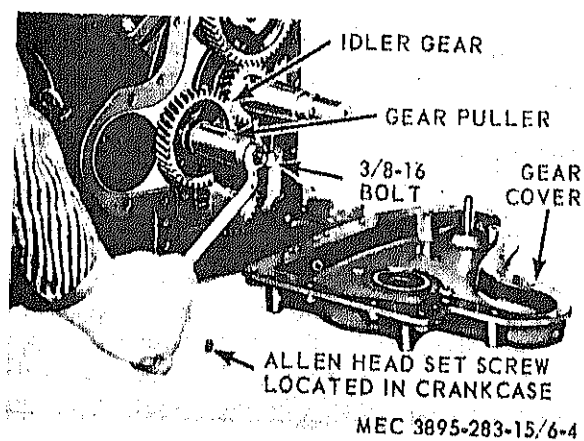

Figure 6-4. Idler Gear and Shaft Removal.
a. Removal (fig. 6-4).
(1) Remove Allen-head set screw on the magneto side of the crankcase which locks the idler shaft in position.
(2) With gear puller, remove idler shaft and idler shaft gear gear assembly.